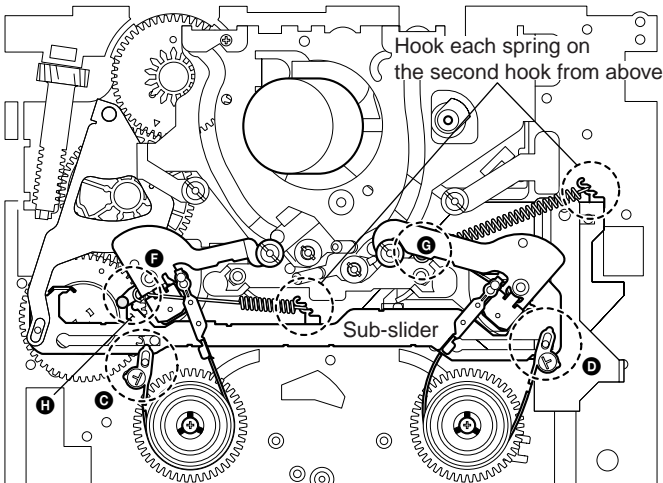
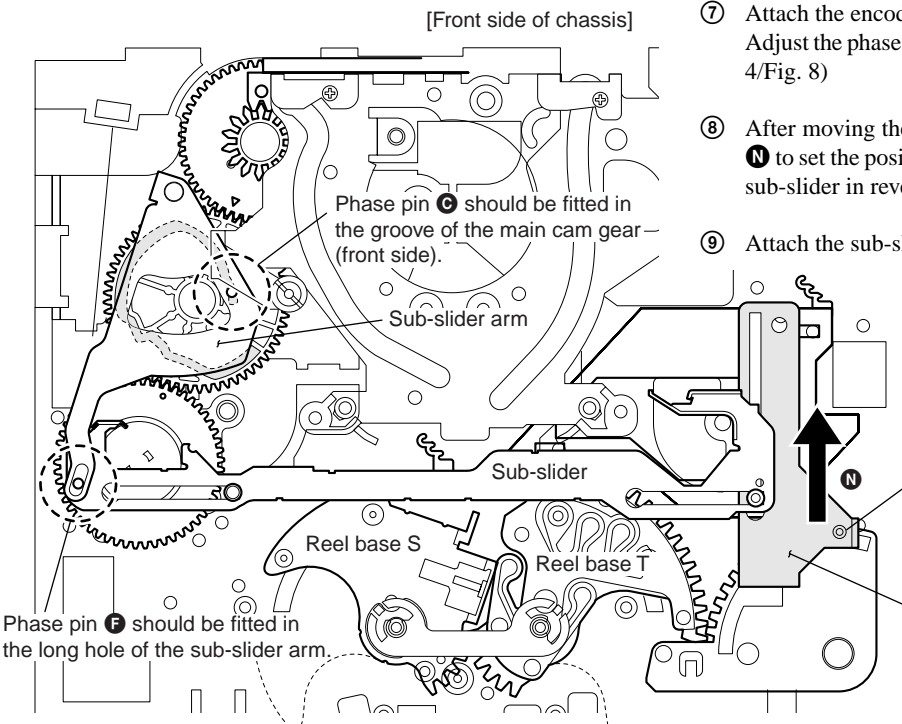

Fig. 3
Fig. 13
- ③ Attach the tension coil spring to the TG arm assembly. (Fig. 3, 4)
- Hook the spring of the tension coil spring (TG2) from the inside and put it under the TG band. (Fig. 3-F, 4)
- Hook the spring of the tension coil spring (TG7) from the outside and put it under the TG7 band. (Fig. 3-G, 4)
- ④ Attach the TG arm block to the shaft (A or B) and attach the tension coil spring to the second hook. When attaching the TG2 arm, the □ part must be at the left of portion H of the slider. (Fig. 3)
- ⑤ Attach the adjuster of the TG band to shafts C and D.
⑦ Attach the encoder gear. (Fig. 3)
⑧ After moving the reel selector slider in the direction of arrow **N** to set the position of the reel base to "L cassette", attach the sub-slider in reverse order while referring to Fig. 3. (Fig. 13)
⑨ Attach the sub-slider arm. (Fig. 1/Fig. 13)